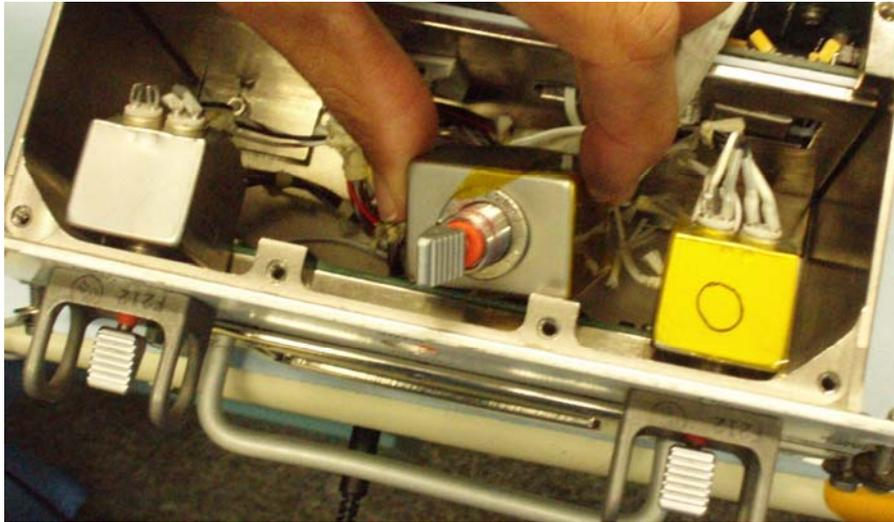

Figure 9. – Taping Switch Key Ring to prevent rotation.
A non-captive key ring is located on the switch shaft. This ring will come loose during removal of switch. Avoid letting key ring rotate during switch removal. Key ring will be taped after switch is removed. Refer to Figure 9.
Refer to Figure 9.
- 3.10 Tape non-captive switch key ring to switch to prevent rotation. (Kapton Tape). Refer to Figure 9.